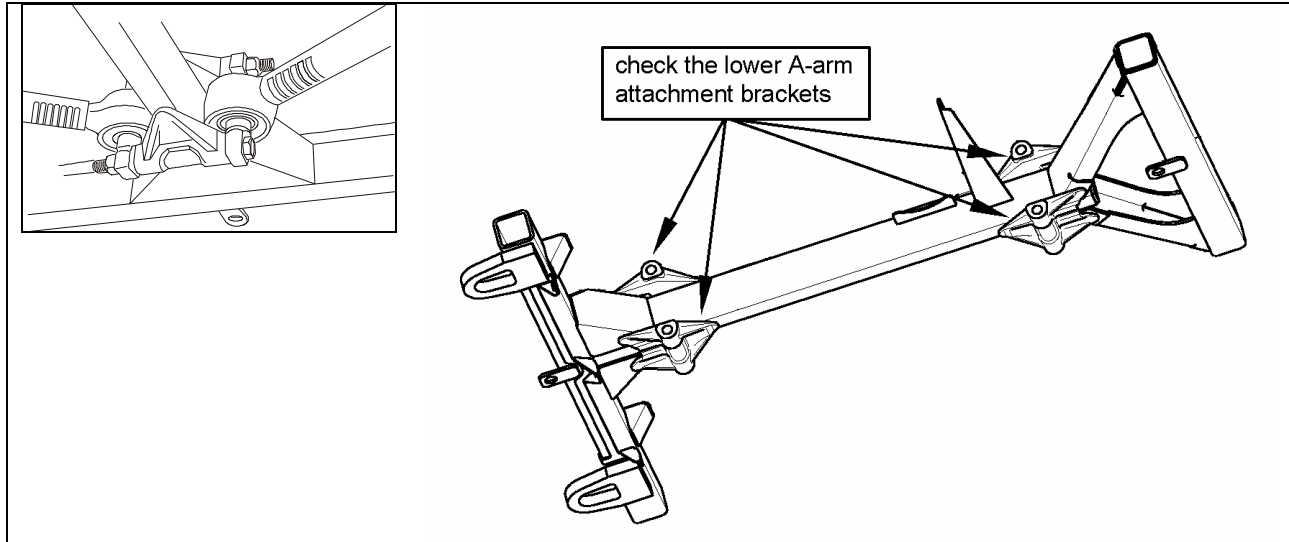

FIGURE 1: LOCATING THE 4 ATTACHMENT BRACKETS
2. At the front of the vehicle, locate the 4 lower A-arm attachment brackets. (figure1).